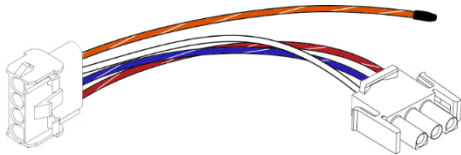

Figure 1 - 4-to-3-Pin Adapter
- 1x 4-to-3-pin adapter (Figure 1)
You may find the Molex™ plug coming from the wall has a 3-pin plug and EasyTouch comes with a 4-pin plug installed. Use the provided 4-to-3 pin adapter harness (Figure 1) in these systems, where the orange/white wire is not used. If you have a 4-wire plug coming from the wall already then you will not need the 4-to-3 pin adapter harness. If you find the 9-pin (3x3) is used but not a 4-or 3-pin then you will use the relevant Direct-Wired section directions to complete the wiring.
EasyTouch will also have a pre-wired 2-pin connector and a pre-wired 4-pin connector attached to the back. Connect the provided 4-to-3 pin adapter harness (Figure 1) to EasyTouch. Strip away the black heat-shrink on the orange/white stripe wire if the orange/white stripe wire is used. Cut off the 2-pin and 3-pin plugs as needed and use electrical connectors (not provided) to complete the installation per Table 4. Any unused wires or plugs you can cut short or leave untouched.